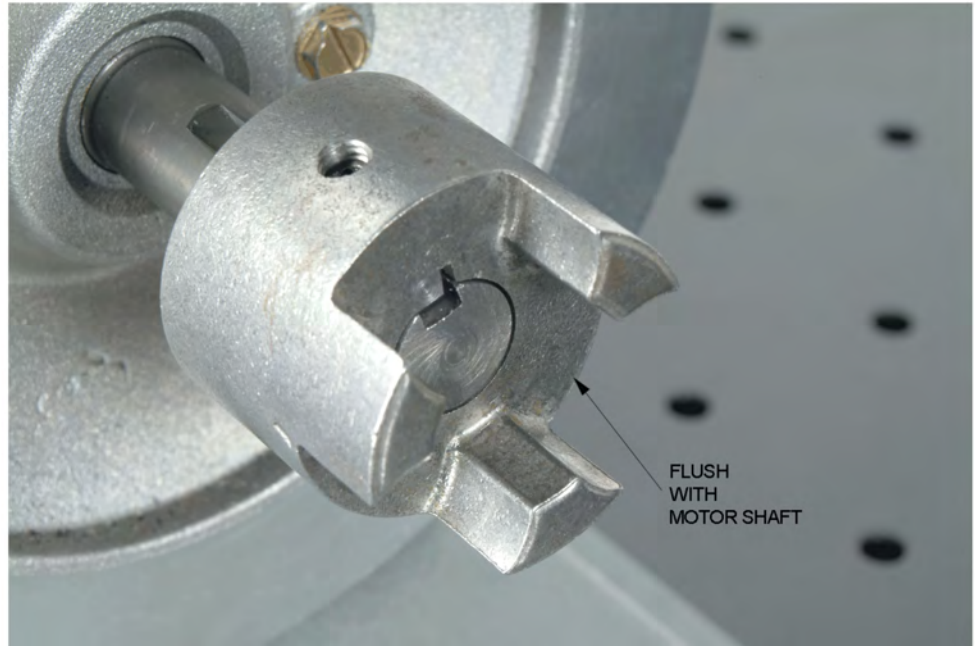

Figure 1-7. Installation of the coupling hub on the Motor shaft.
- 4. Position the coupling hub on the Motor shaft as shown in Figure 1-7, and tighten the setscrew on the shaft key.